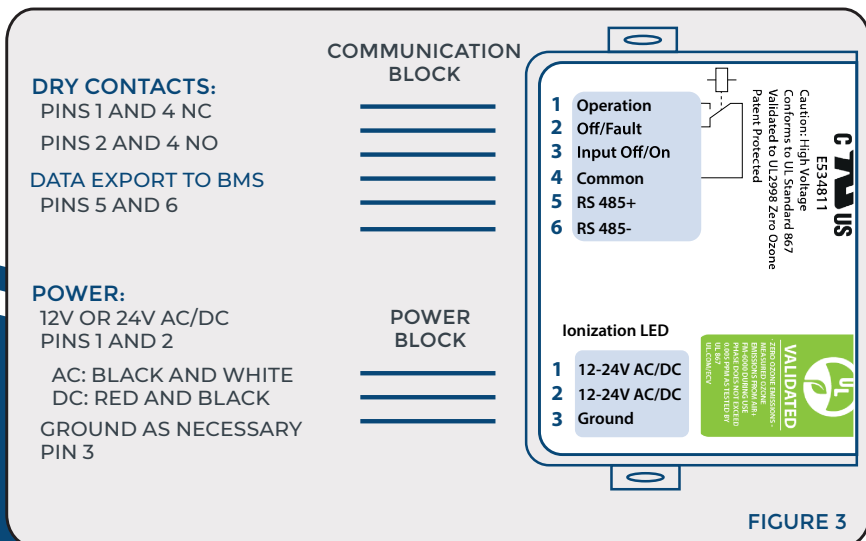

FIGURE 3
3. Connect 12V or 24V AC or DC power wires to power inlet block by pressing the orange tab firmly, inserting the appropriate wire, then releasing the orange tab. Repeat as necessary for the other wires. (See Figure 3).